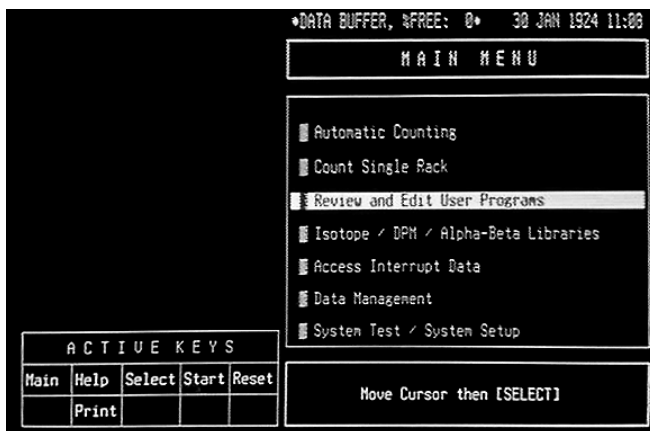

Figure 1. Main menu.
- 1.2 On the “MAIN MENU” screen, use the arrow keys to highlight “Review and Edit User Programs” and press **SELECT** on the keyboard (Fig. 1).